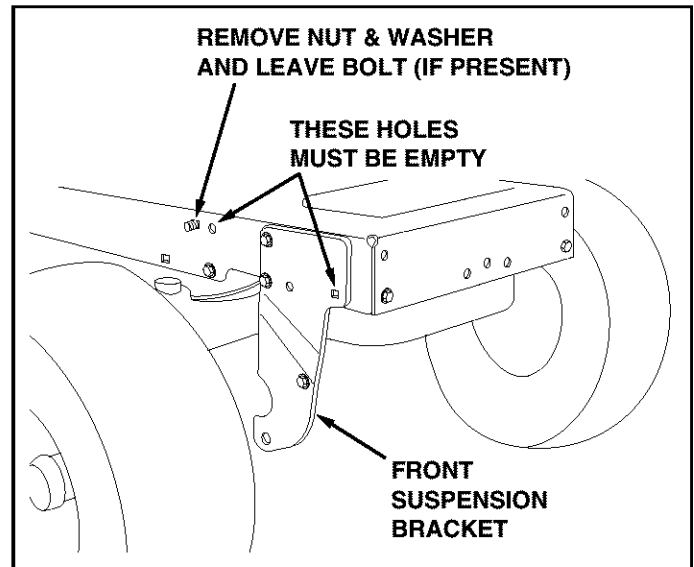

FIGURE 1
TRACTORS WITH FRAME MOUNTED FRONT SUSPENSION BRACKETS (See figure 1.)
- Remove any bolts that are present in the two holes shown as empty in figure 1.
- If there is a bolt in the third hole shown in figure 1, remove the nut and washer but leave the bolt in place.
- If you removed a nut and washer from the bolt in figure 1, assemble a whizlock nut onto the bolt.